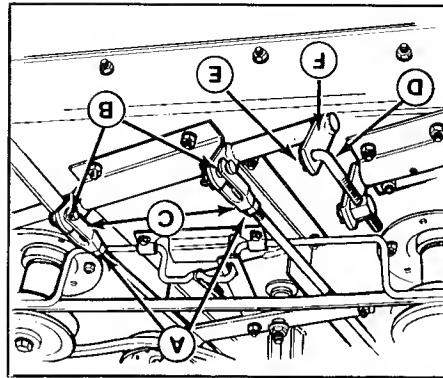

Figure 33. Leveling Mower
5. Remove the cotter pin (E, Figure 33) which secures the mower leveling rod (D). Shorten the rod (D) to raise the left side of the mower or lengthen the rod to lower the left side of the mower. Put the leveling rod back in its hole and re-check the measurements. If the mower is level, install the cotter pin (E).